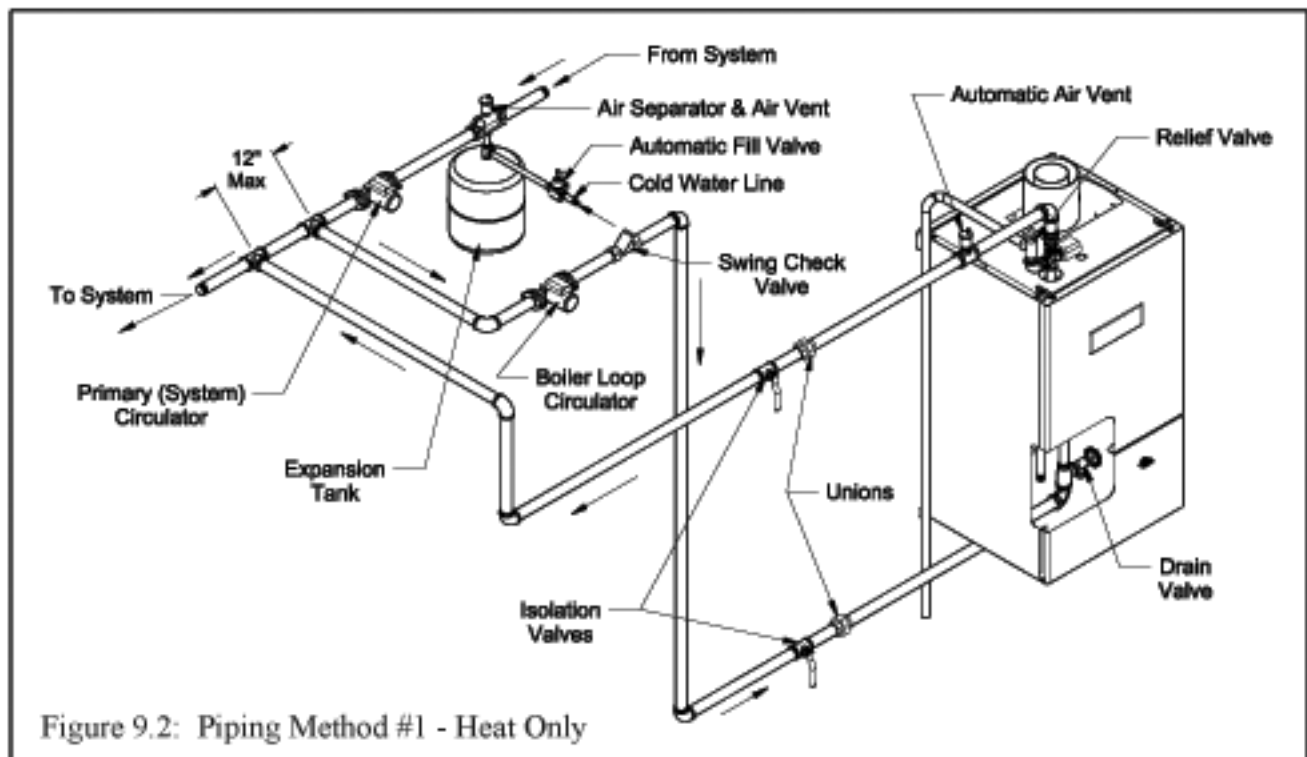
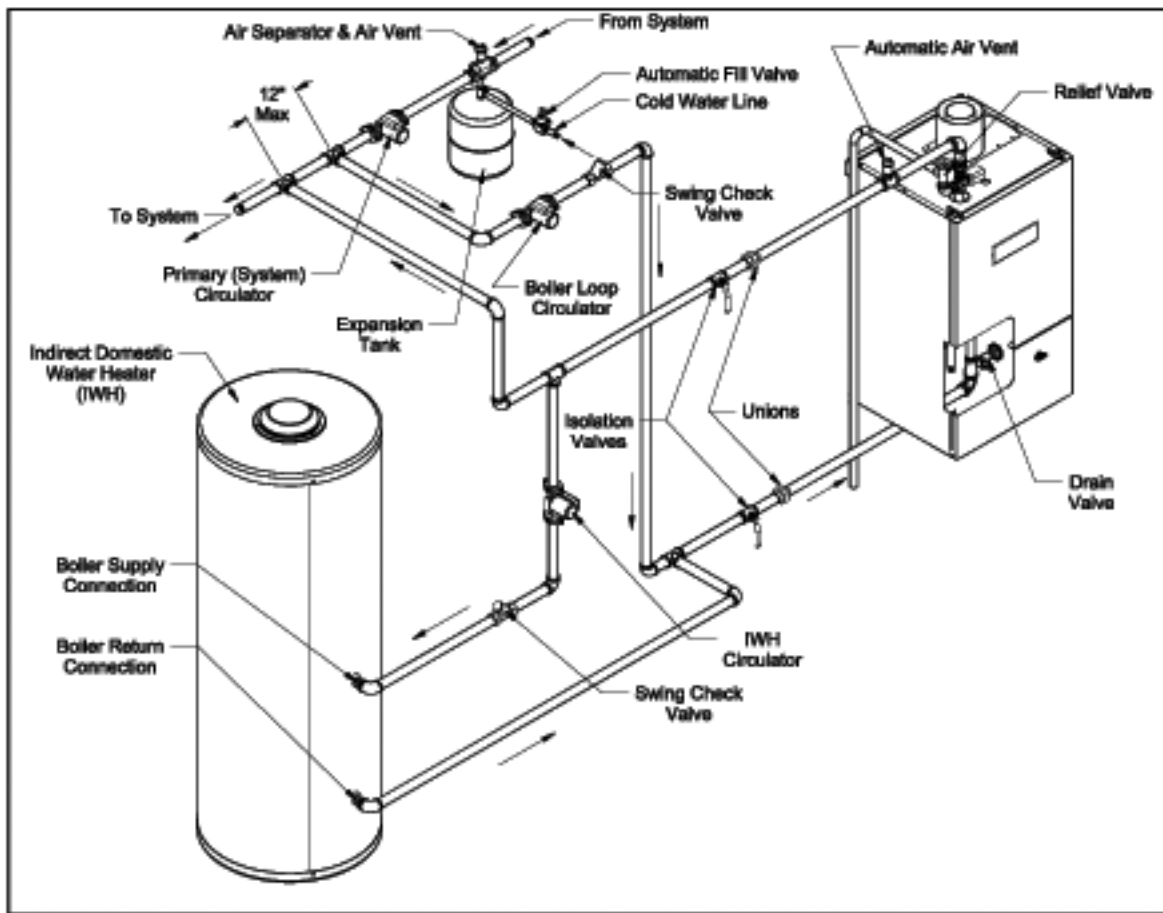

Figure 9.2: Piping Method #1 - Heat Only
Figure 9.3: Piping Method #1 - Heat + Indirect Water Heater
This method can be used in heat-only applications as shown in Figure 9.2 or with an indirect water heater as shown in Figure 9.3. This method relies on primary/secondary pumping to ensure that the required flow is always maintained through the boiler. In this system, the flow rate through the boiler is completely independent of the flow rate through the heating system. Use the following guidelines to ensure that the boiler will have the required flow shown in Table 9.1 regardless of the flow in the heating system.
Example - Assume that a BWC120 is to be installed in a heating system along with a Crown MS-40 indirect water heater. A total of 15 ft of straight pipe will be installed between the boiler and the primary loop. A total of 20 ft of straight pipe will be installed between the boiler and the indirect water heater. Fittings are arranged as shown in Figure 9.3. A 9.0 GPM flow is required in the boiler loop. The MS-40 requires a flow rate of 8 GPM and has a head loss of 3.0 ft.
- 9) Drain Valve (Required) - The drain valve is installed on the return tee located in the lower vestibule compartment as shown in Figure 9.2.